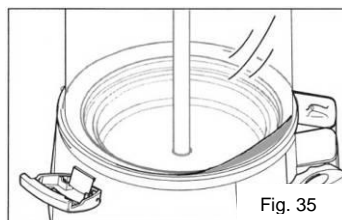

Fig. 35
- Fig. 35 shows incorrectly replaced container; in such case the container DOES NOT adhere to the whole edge of the bottom.